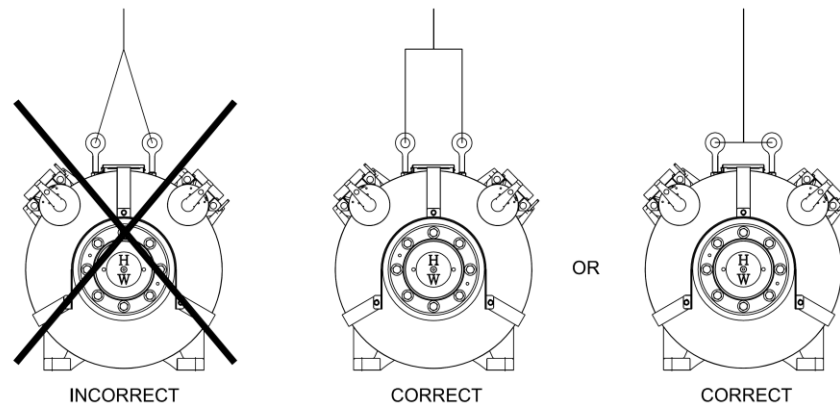

Figure 11
- When hoisting the machine, pull straight up on the hoisting eyebolts using a spreader beam or other suitable rigging apparatus to prevent damage to the eyebolts and possible failure which could result in dropping the machine. Refer to Figure 11 for the proper hoisting methods and Table 6 for the machine weights.